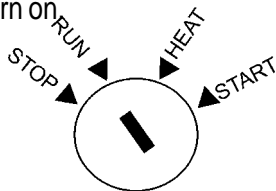

Figure 22. Starter Switch to 'RUN' position
9. Insert the key into the starter switch and turn the 'Run' position (Figure 22). The oil pressure light will temporarily turn on.